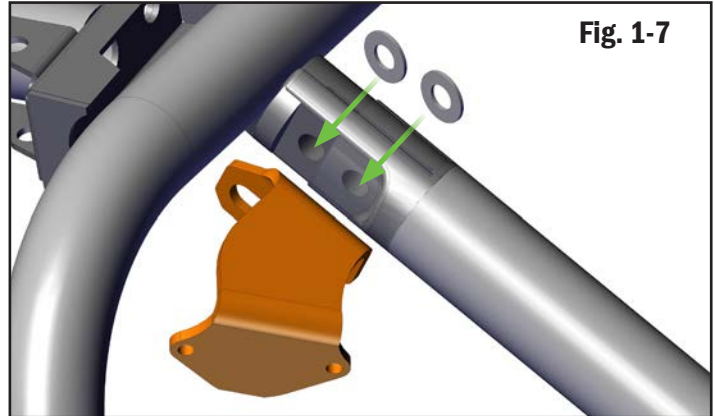

Fig. 1-7
- Use Flat Washers as a shim for the Top mounting brackets as seen in Fig. 1-7 and Fig. 1-8
-RBO provides (8) - M10 - Flat Washers, but it is up the installer to determine if the top mounting brackets have been properly mounted